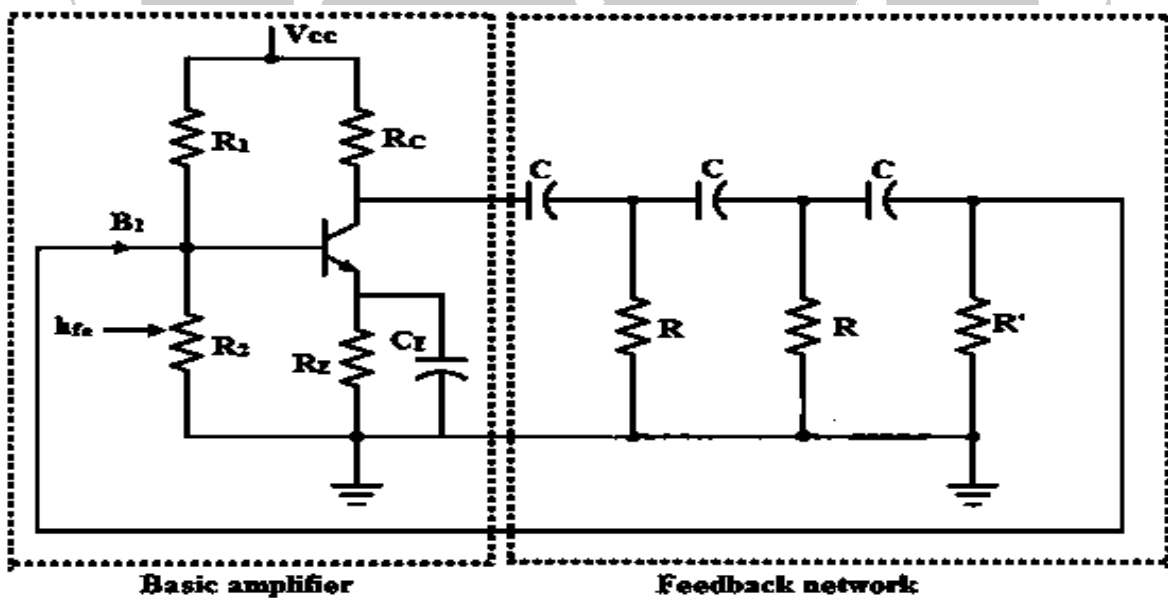

Fig. 15.2: Circuit diagram of RC phase shift oscillator (positive feedback amplifier)
For figure 15.2 $R_1=683k\Omega$, $R_2=12\Omega$, $R_C=1K\Omega$, $R_E=1K\Omega$, $R_L=1K\Omega$.
7. Build circuit of positive feedback (RC phase shift oscillator) on breadboard as per Figure 15.2.